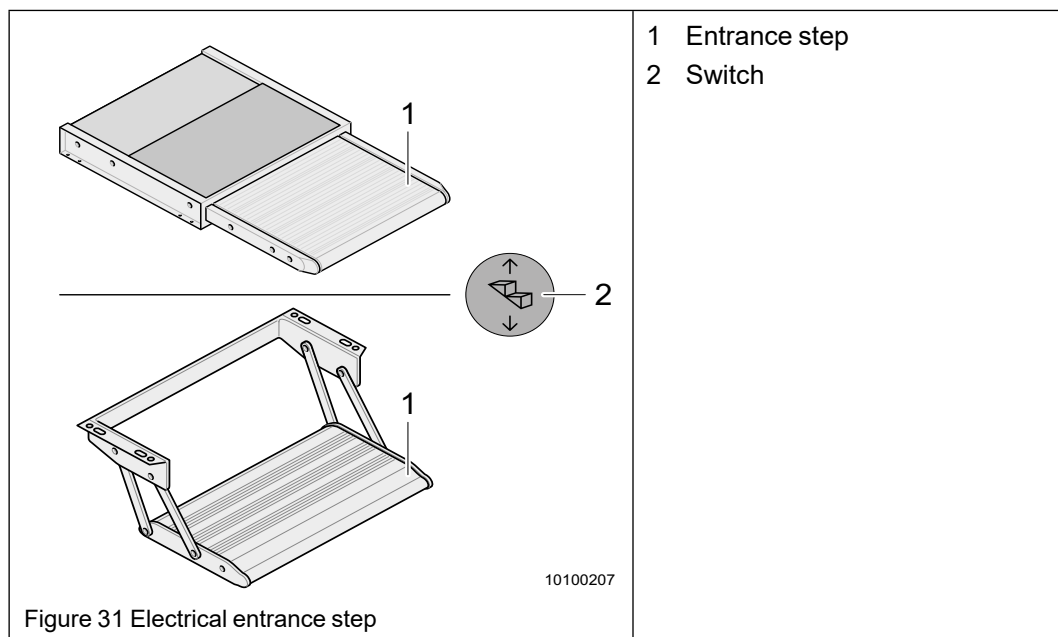

Figure 31 Electrical entrance step
The switch Figure 31/2) for retraction or extension of the entrance step is located in the entrance area near the outer door.
- ➔ Tip the switch Figure 31/2) briefly in the lower area until the entrance step is extended Figure 31/1).
- ➔ Tip the switch Figure 31/2) briefly in the upper area until the entrance step is retracted Figure 31/1).